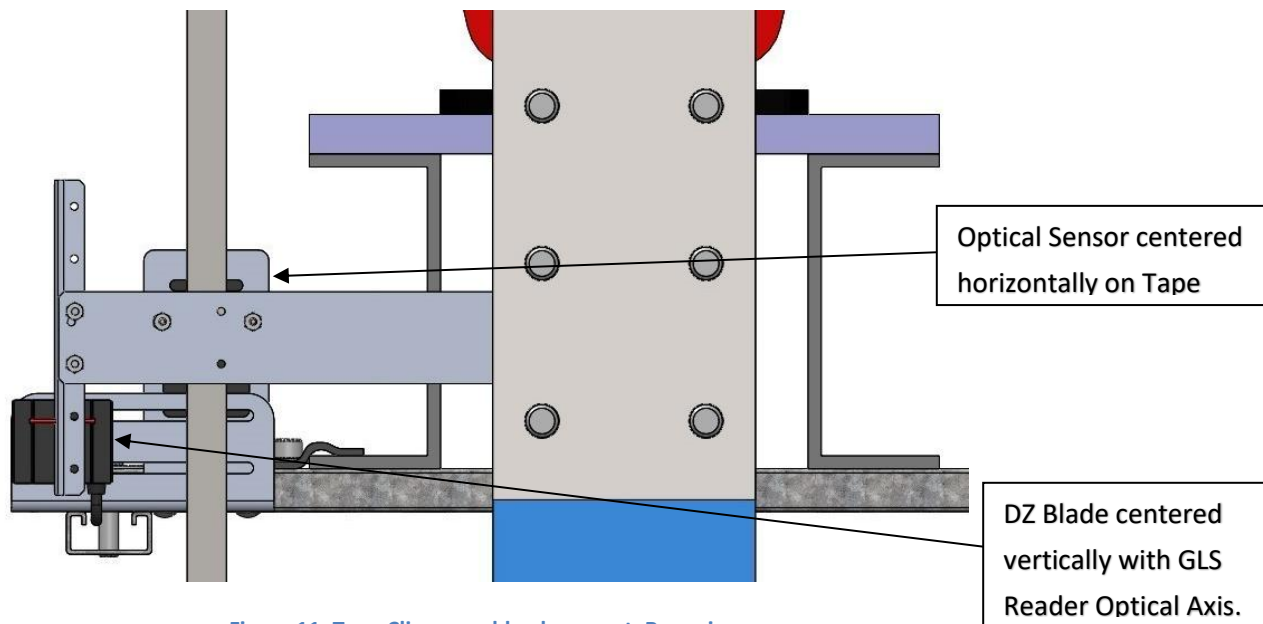

Figure 11: Tape Clip assembly placement. Rear view.
- Thread the Nylock nut onto the bolt until there is a .2" gap between the two flat washers that are on either side of the Tape Interlock bracket as shown in figure 11. This gap is required to relieve twist in the tape.